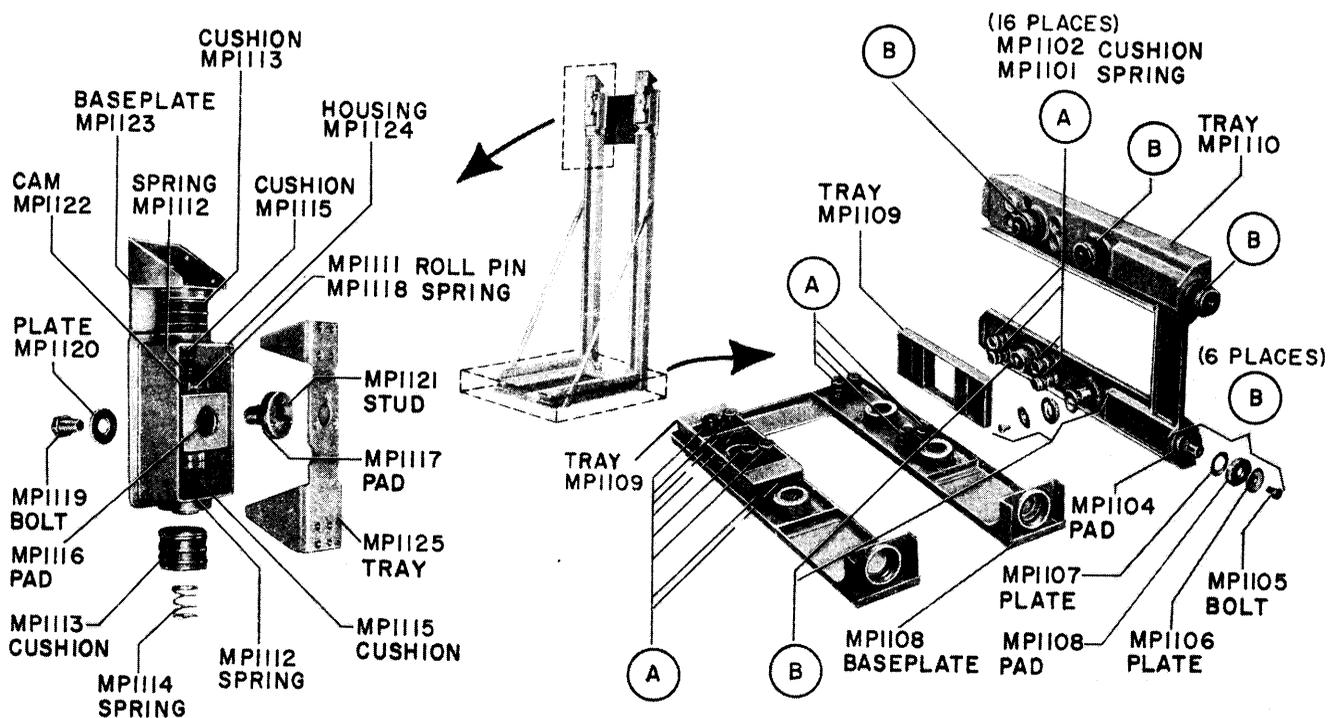
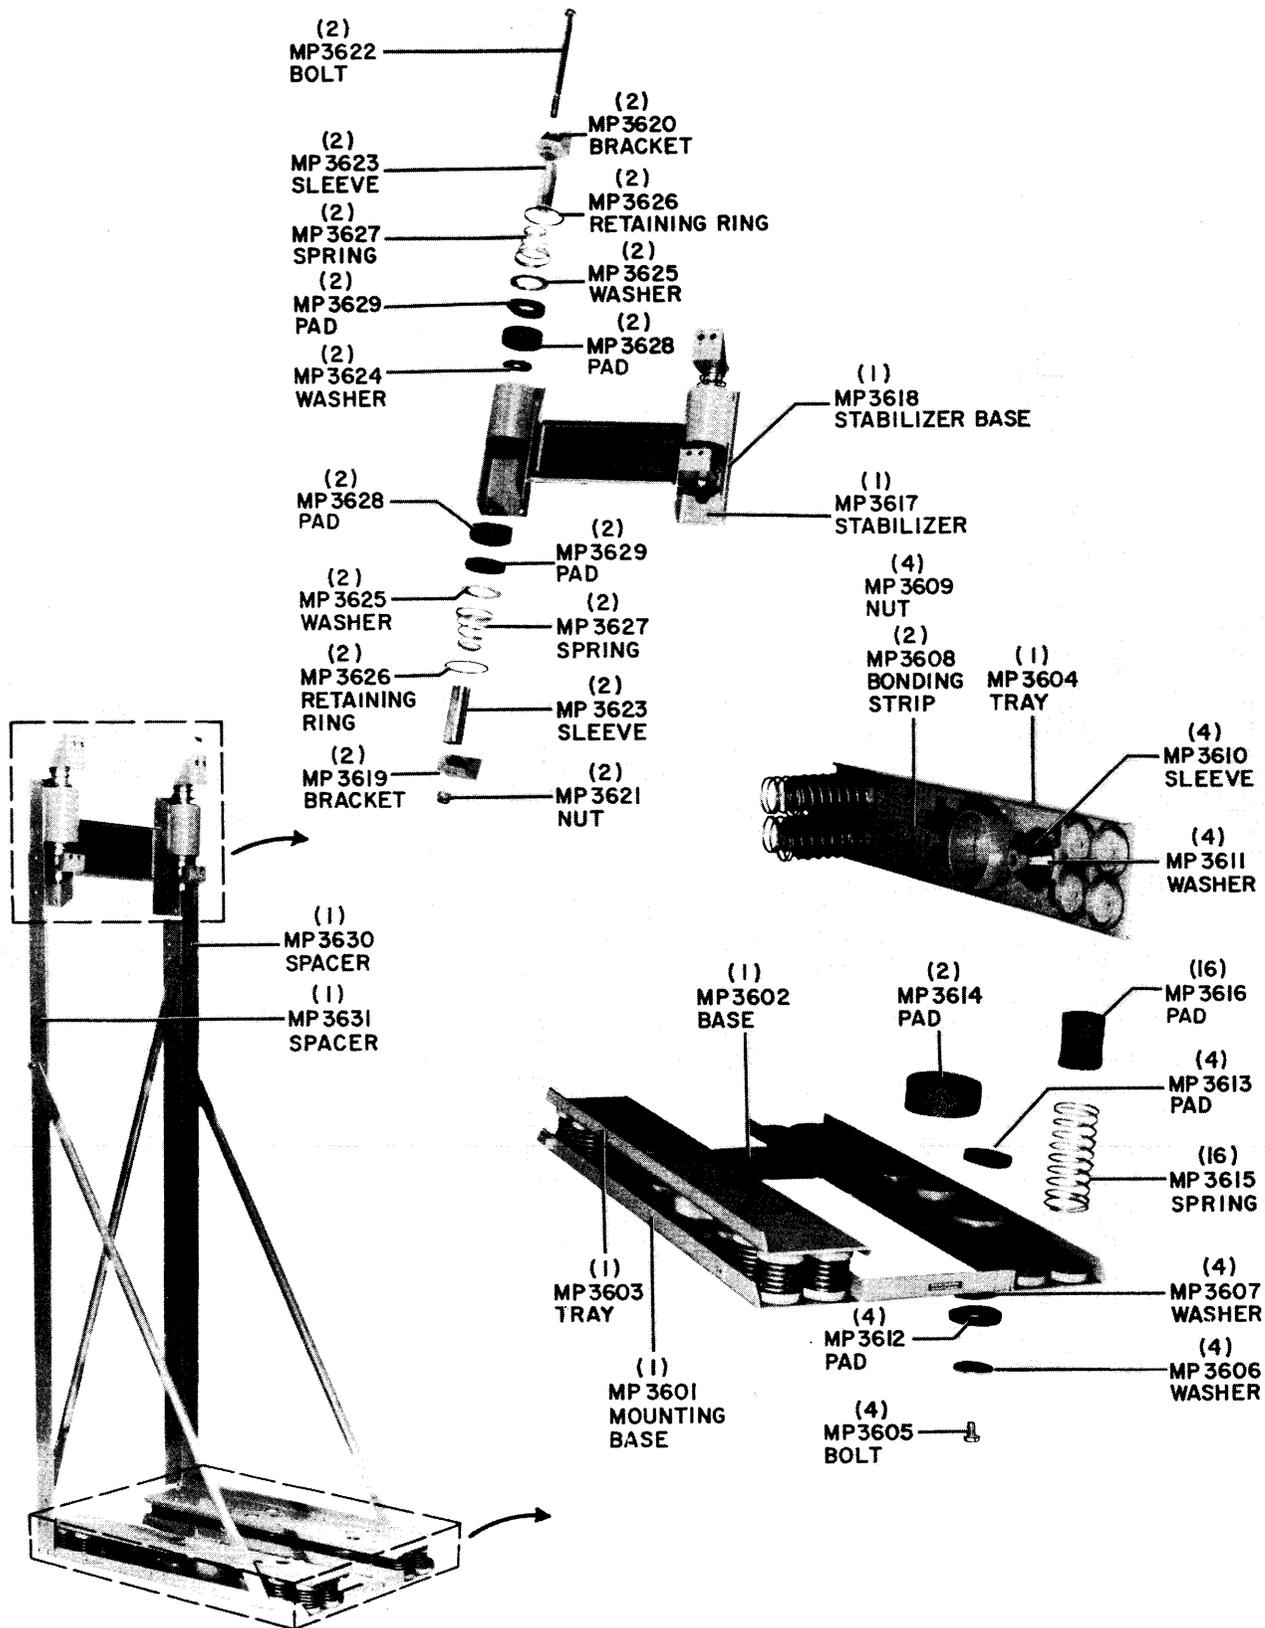

Figure 6-22A. Mounting MT-2170/WRT, Replacement of Parts
Figure 6-22B. Mounting MT-2170A/WRT, Replacement of Parts
i. Mounting MT-2170/WRT.—Disassembly and assembly of Mounting MT-2170/WRT requires no special instructions. Remove Radio Set AN/WRT-2 and anchor it securely before attempting to service the mounting. Refer to figure 6-22A for Mounting MT-2170/WRT or to figure 6-22B for Mounting MT-2170A/WRT when assembling or disassembling the mounting.